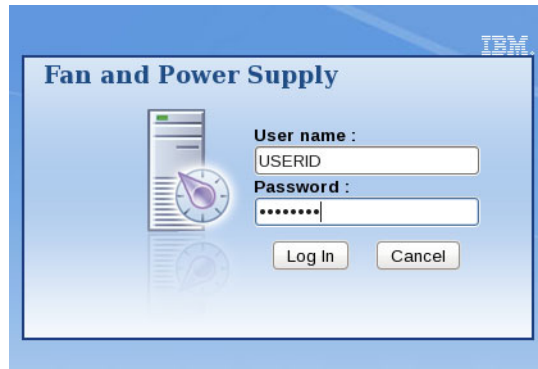

Figure 7-14 Fan and Power Controller log in page
2. After the login window opens, enter the user name and password, as shown in Figure 7-14. The default user ID is USERID and default password is PASSWORD (where the 0 in the password is the zero character and not an uppercase letter o.)